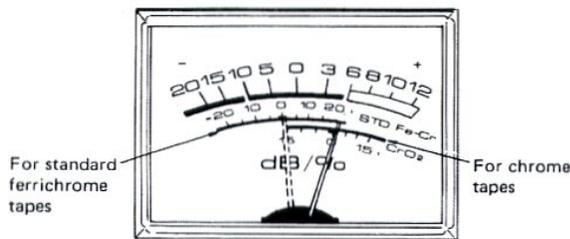

Fig. 7
4. Rotate the BIAS control until the bias meter pointer (see Fig. 7) deflects to the bias adjustment value (%).